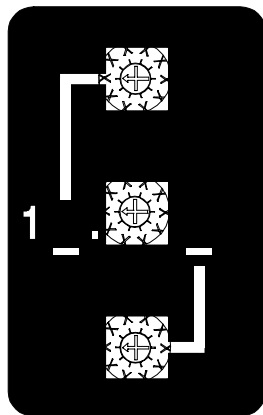

Figure 8.1
switch to 3, and the bottom switch to 8 (see the figure 8.1). This will provide you with the proper charging voltage. The tens digit is always a one (1) and cannot be changed. **BE SURE EACH SWITCH IS SET ON A NUMBER AND NOT BETWEEN NUMBERS.** If a switch is set between numbers, the output current will go to zero and the yellow charging LED will flash.